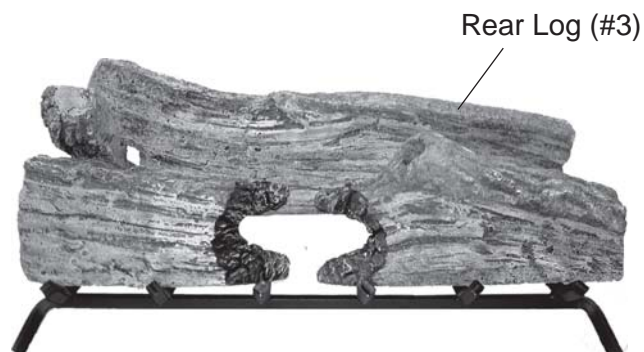

Figure 115 - Installing Rear Log #3
5. Fit cutout in the bottom left of Rear Log #3 over the back end of log #2. Rest right end of Log #3 on rear grate bar. *See Figure 115.*